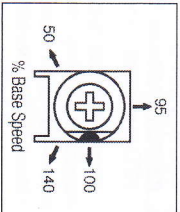

FIGURE 25 – MAX TRIMPOT RANGE
C. Maximum Speed (MAX) – Sets maximum speed of the motor. The MAX trimpot is factory set for 100% of base motor speed, as shown in Figure 25. For a higher maximum speed setting, rotate the trimpot clockwise. For a lower maximum speed setting, rotate the trimpot counterclockwise.